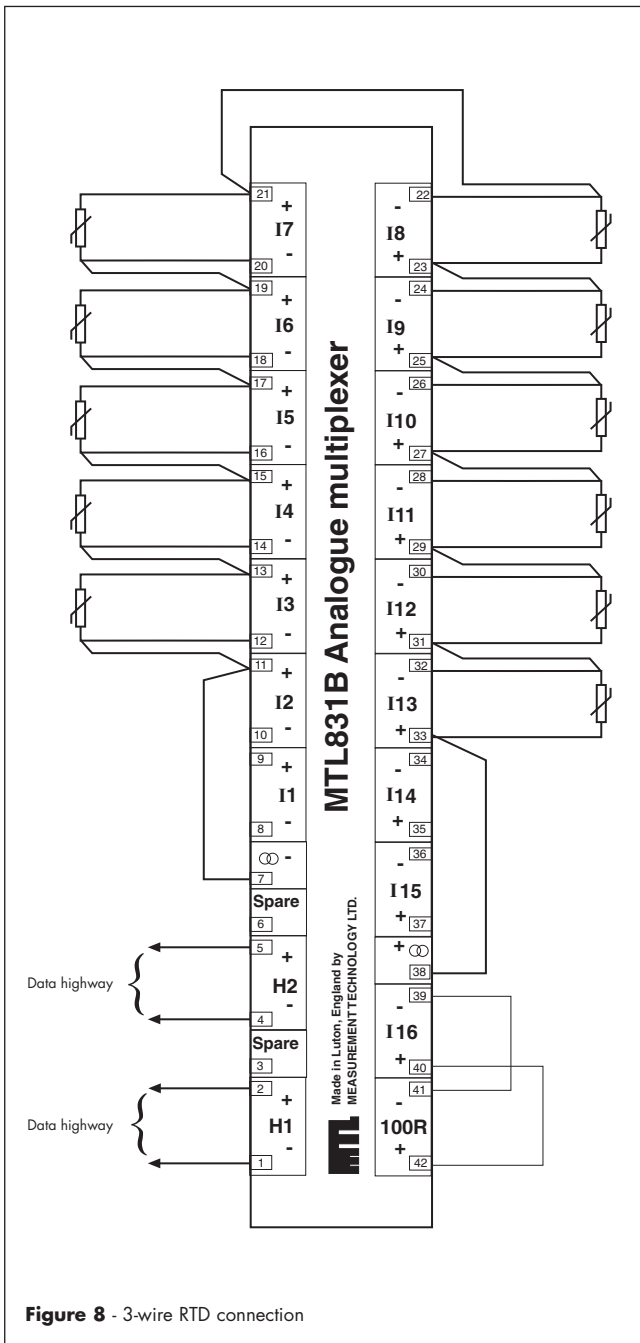

Figure 8 - 3-wire RTD connection
4.1.3 3-wire RTDs (see Figure 8)
Note: If the first RTD does not occupy terminal pair **I1**, the +ve terminal of the preceding terminal pair can be used for linking - as shown in Figure 8.